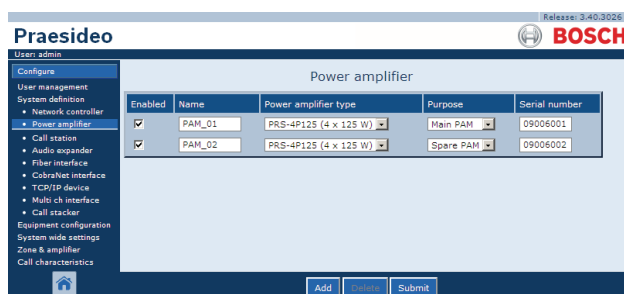

figure 43.8: Delete power amplifier, step 1
- Go to *Configure > System definition > Power amplifier*. A screen similar to the one in figure 43.8 appears in the main frame of the web interface.